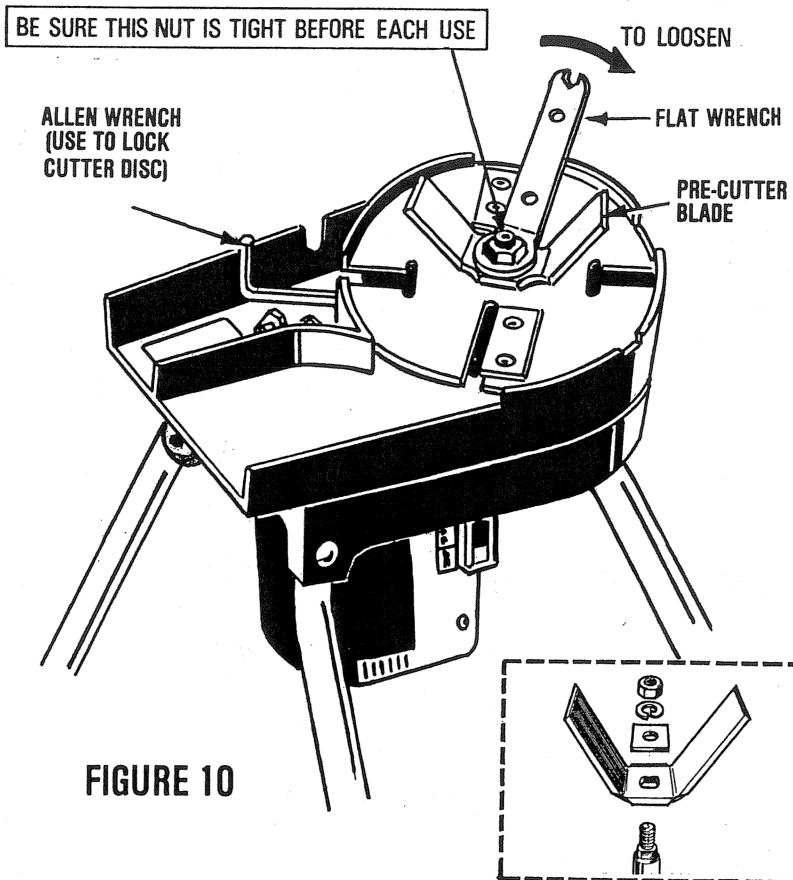

FIGURE 10
10. **CHECK SHREDDER FOR LOOSE BOLTS, nuts, etc. before each operation.** (See Figure 10)
## CHANGING THE PRE-CUTTER BLADE (See Figure 10)